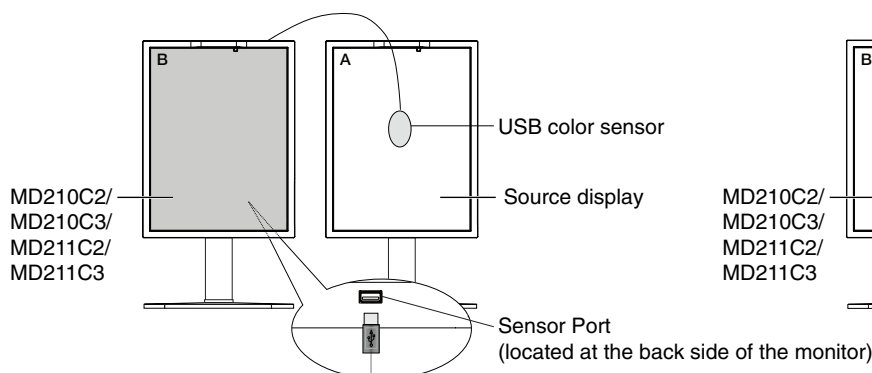

Figure C.1
1. To show the CALIBRATION menu, plug-in the USB color sensor to the sensor port (Figure C.1) or select the STAND ALONE CALIBRATION in the advanced menu (page 22).
4. The procedure will ask for the USB color sensor to be placed on the center of the display panel (Figure C.4). Tilt the display panel approximately 5° backward and place the USB color sensor in the center of the display panel (Figure C.1).